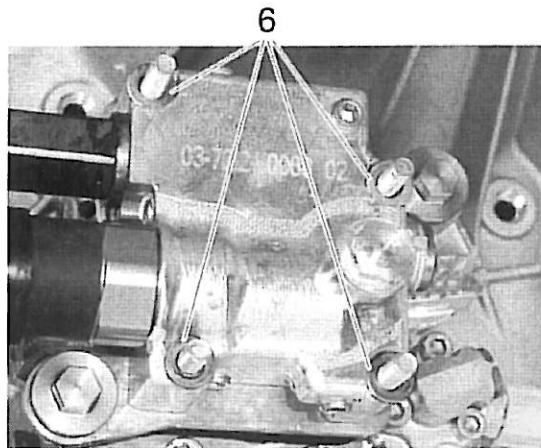

Figure 20
14. Fit one washer (item 6) onto each of the stud bolts. See Figure 20.